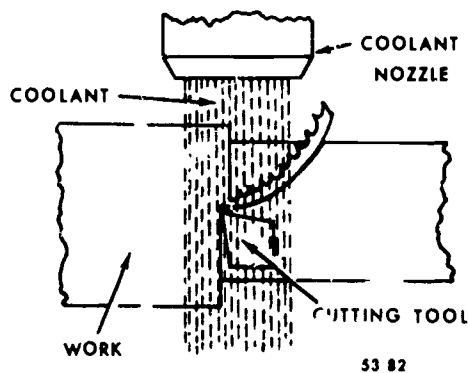
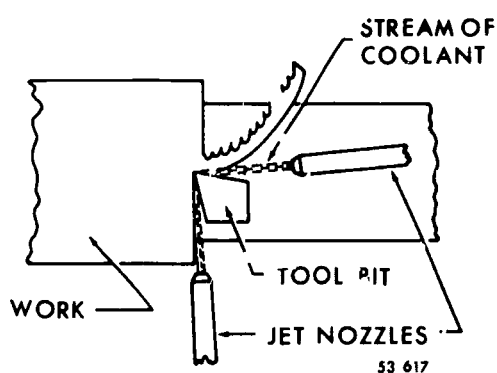

Figure 2-7. Conventional method of cooling a cutting tool.
Figure 2-8. Jet method of cooling a cutting tool.
**Cutting Lubricants and Coolants.** The primary purpose of a coolant is to carry away cutting tool heat. The various chemically active cutting fluids also reduce the cutting forces and thus ease the machining of metals. Operations that are performed at high speeds can benefit from a cutting fluid. High cutting speeds generate high temperatures at the tool point which causes the tool to lose its hardness. The use of coolant permits higher cutting speeds without increased tool temperature. In machining operations there are two methods of introducing cutting lubricants or coolants to the work. The most common method is the "conventional method" in which an abundance of coolant is flooded over the entire work and tool surfaces, as shown in figure 2-7. A disadvantage of this method in some cases is that the fluid cannot be applied close enough to the chip interface to perform its cooling function. Another method is the "jet cooling" application of cutting fluid to the work and tool, as shown in figure 2-8. The theory behind this method is that the coolant is forced to the cutting edge of the tool and interface of the chip to reduce tool tip temperature.